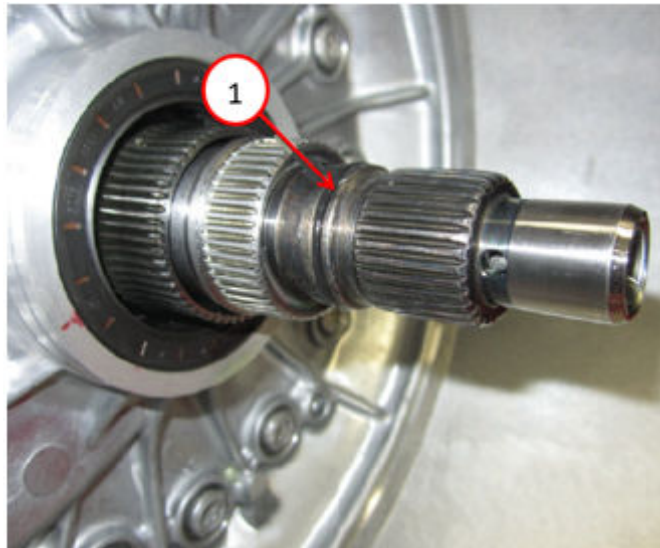

Fig. 14
20. Remove the input shaft O-ring using a small pick or equivalent Fig. 14.